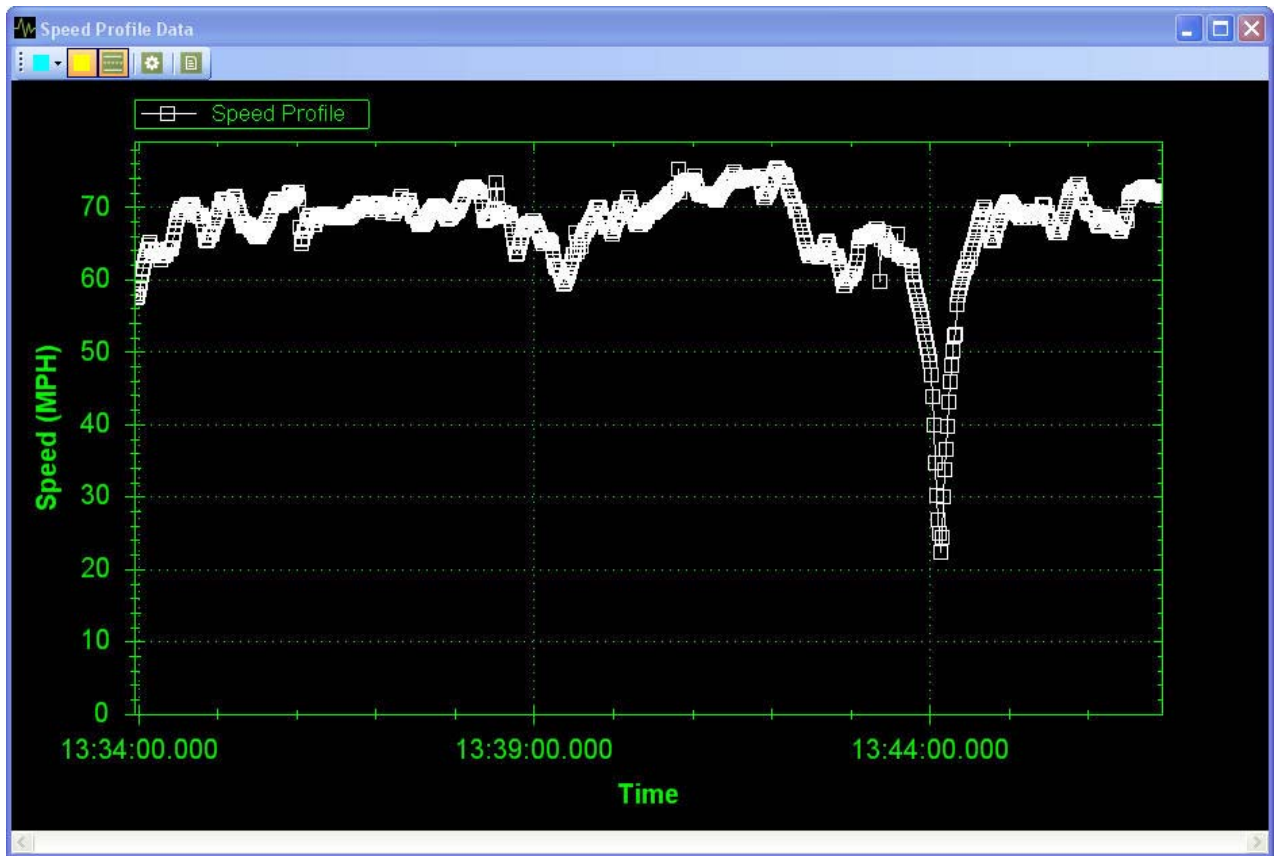

Figure 15 – Vehicle Speed Profile
- Same speed profile (Use the rMetrix Speed Profile graph (Figure 15) or real-time speed graph from the good vehicle test as a comparison for setting the suspect vehicle speeds during its test.)